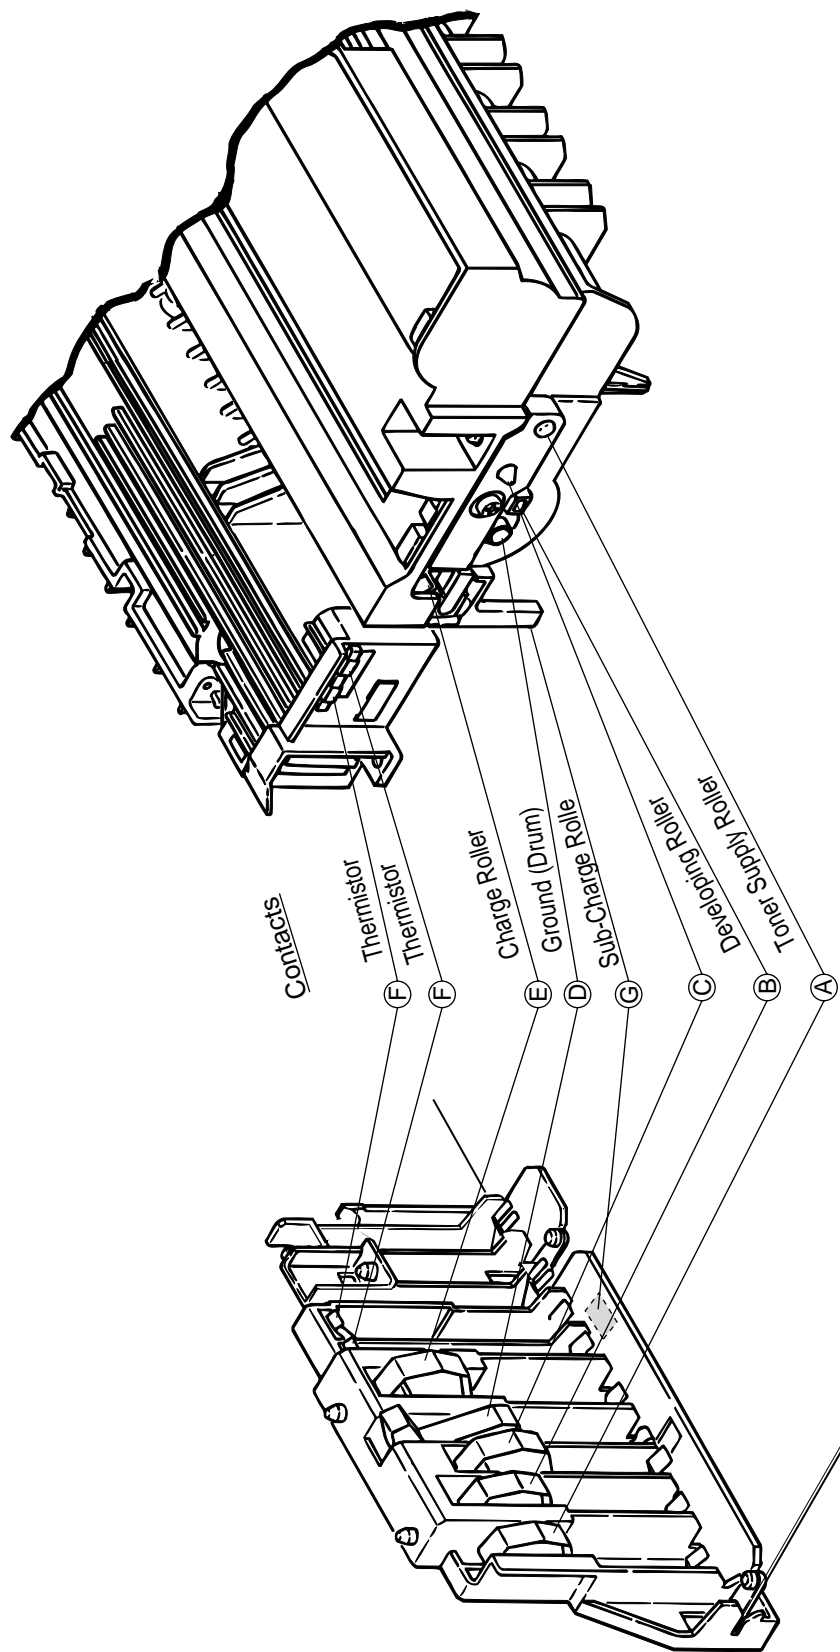

Figure 6-4
• Yes Check the heat contacts of the fusing unit and the contact assembly for poor contact (see Figure 6-4 contact ㉔).
▼ Yes Are the contact of the developing roller and the contact of the toner supply roller of the image drum cartridge in contact with the contact assembly properly (see Figure 6-4 (A) and (B))?